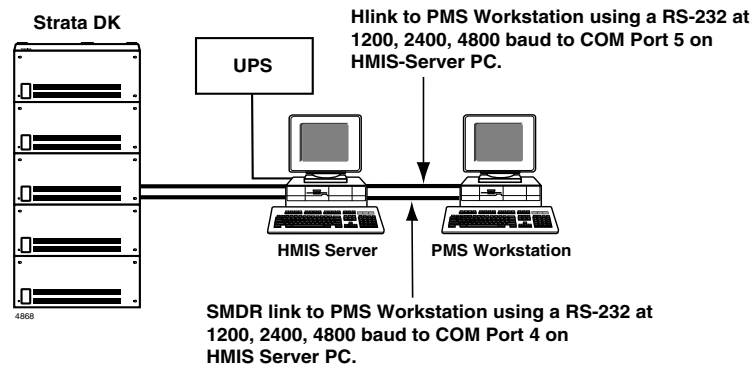

Figure 57 HMIS Server PC with PMS Workstations
- ♦ An HMIS server interfaced to a customer-supplied Property Management System (PMS) (see Figure 57). The PMS Interface, called Hlink, is the connection from the HMIS to other PMSs. The HMIS server serial port connects to the PMS PC's serial port. This interface enables the customer to use an external PMS to perform front desk operations, while the HMIS performs telephone control functions. The Command window on the HMIS displays completed task that are received from or sent to the PMS. Customers can use both the strengths and specific functionality of both their PMS. Customers can use both the strengths and specific functionality of both their PMS and their HMIS to meet their specific needs.